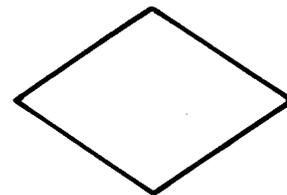

Fig. 12—Decision Symbol
2.12 *The decision symbol* (Fig. 12) represents a decision or switching-type operation that determines which of a number of alternative paths is to be followed.